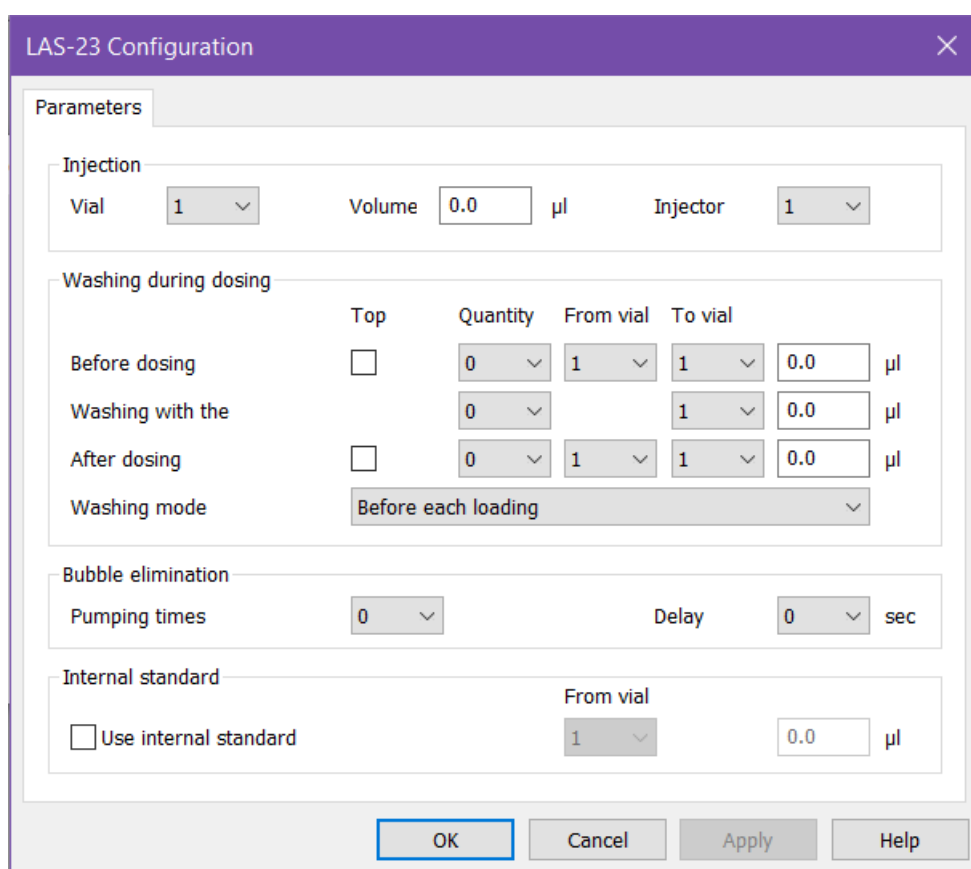

Fig. 80: LAS-23 Configuration > Parameters
6. In the *Add a main task* window, in the *Extra device* field, select **Chromos LAS-23** from the list and click **Settings**. The *LAS-23 Configuration: Parameters* window opens, (Fig. 80), where you can set up the sampler operating parameters.